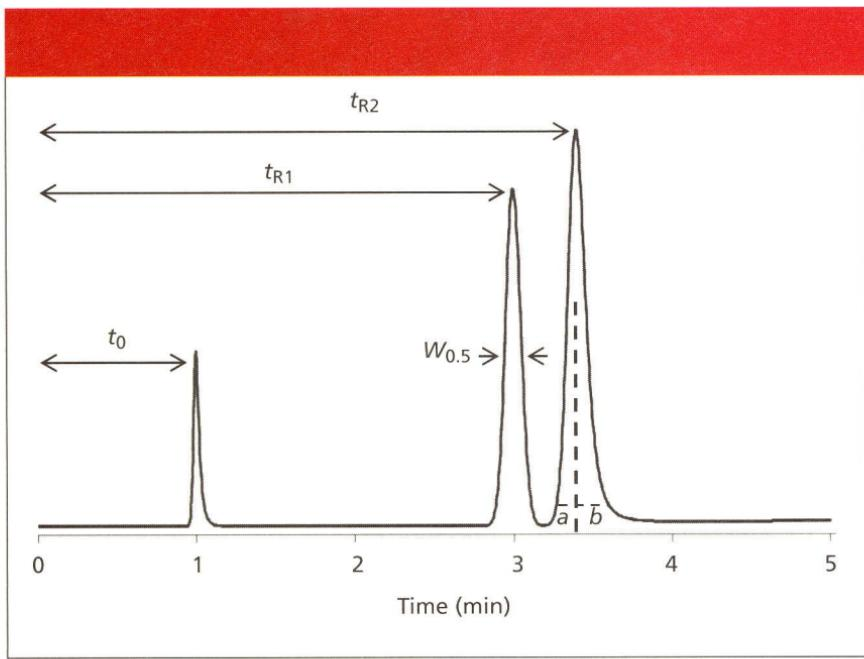

Figure 1: Simulated chromatogram to illustrate calculation of retention factor, tailing factor, resolution, and column plate number.
These are defined as illustrated in Figure 1. The dead time usually is determined either by injecting an unretained substance or identifying the first baseline disturbance in the chromatogram, often referred to as the solvent peak. Retention time is measured from the time of injection to the peak maximum. Ideally, you would like all peaks to be eluted in 2 <
$k < 10$ for the best chromatographic performance, but $1 < k < 20$ is acceptable, especially for more complex samples. With $k < 2$, peaks can be poorly resolved from the unretained material at t_0 in most chromatograms, and retention is more sensitive to small changes in the mobile phase composition than when $k > 2$. The FDA (2) recommends $k > 2$. For Figure 1, $t_0 = 1.00$ min, $t_{R1} = 3.00$ min, and $t_{R2} = 3.40$ min, so $k_1 = (3.00 - 1.00)/1.00 = 2.00$ and $k_2 = 2.4$.
where a and b are defined as shown in Figure 1. A vertical line is dropped from the peak apex and the front and back half-width of a peak at 5% of the peak height are measured. The FDA (2) recommends $T_f < 2$, but you will have better looking chromatograms, improved quantification, and fewer problems separating minor peaks from major ones if you target $T_f \leq 1.5$. For peak 2 of Figure 1, $a = 0.10$ min and $b = 0.16$ min, so $T_f = (0.10 + 0.16)/(2 \times 0.10) = 1.30$.
where t_1 and t_2 are the retention times of peak 1 and peak 2, respectively, and w_1 and w_2 are the baseline peak widths measured between tangents drawn to the sides of the peak. Determination of the baseline peak width is inconvenient, especially if the baseline is noisy or drifting and if the peaks are not fully separated. Most workers prefer measuring the peak width at half the peak height, $w_{0.5}$, as illustrated in Figure 1, because it is easier and less error-prone. Now equation 3 becomes
For Figure 1, $w_{0.5,1} = 0.112$ min and $w_{0.5,2} = 0.126$ min, so $R_s = (3.40 - 3.00)/1.7 \times 0.5(0.112 + 0.126) = 1.98$.
A new 150-mm column packed with 5-mm diameter particles or a 100-mm, 3-mm column will generate $N = 12,000$ or more with an well-behaved test compound, but more in the range of $N = 10,000$ for real samples. The FDA (2) recommends $N > 2000$. This could be obtained with a poorly performing 50-mm, 5-mm column, so in my opinion, this criteria is not worth much in terms of evaluating the quality of the column. For peak 1 of Figure 1, $N = 5.54(3.00/0.112)^2 = 3975$. One thing to keep in mind is that equations 5 and 6 are for isocratic separations; they will not work for gradient conditions.